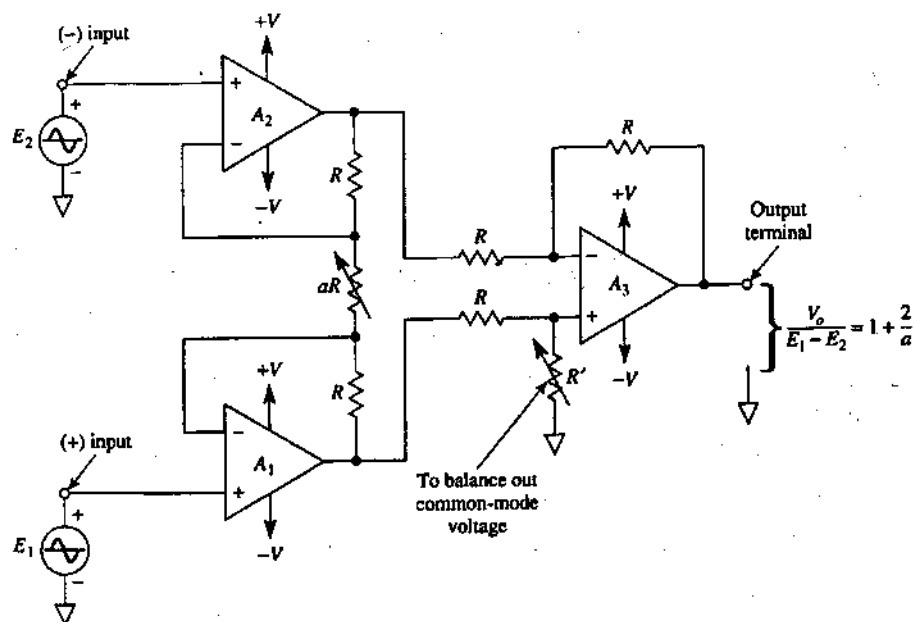

FIGURE 8-6 Basic instrumentation amplifier model.
The instrumentation amplifier (IA) is one of the most useful, precise, and versatile amplifiers available today. You will find at least one in every data acquisition unit. The basic IA is made from three op amps and seven resistors, as shown in Fig. 8-6. To simplify circuit analysis, note that the instrumentation amplifier is actually made by connecting a buffered amplifier [Fig. 8-5(b)] to a basic differential amplifier (Fig. 8-1). Op amp  $A_3$  and its four equal resistors,  $R$ , form a differential amplifier with a gain of 1. Only the  $A_3$  resistors have to be matched. The primed resistor,  $R'$  can be made variable to balance out any common-mode voltage, as shown in Fig. 8-2. Only *one resistor*,  $aR$ , is used to set the gain according to Eq. (8-6), repeated here for convenience:
In Fig. 8-6,  $R = 25 \text{ k}\Omega$  and  $aR = 50 \text{ }\Omega$ . Calculate the voltage gain.
If  $aR$  is removed in Fig. 8-6 so that  $aR = \infty$ , what is the voltage gain?
In Fig. 8-6, the following voltages are applied to the inputs. Each voltage polarity is given with respect to ground. Assuming the gain of 1001 from Example 8-3, find  $V_o$  for (a)  $E_1 = 5.001$  V and  $E_2 = 5.002$  V; (b)  $E_1 = 5.001$  V and  $E_2 = 5.000$  V; (c)  $E_1 = -1.001$  V,  $E_2 = -1.002$  V.
In some signal conditioning applications, it is desirable to offset the output voltage to a reference level other than 0 V. (For example, it would be convenient to position a pen on a chart recorder or an oscilloscope trace at a level other than zero.) This can be done quite easily by adding a reference voltage in series with one resistor of the basic differential amplifier. Assume that  $E_1$  and  $E_2$  are set equal to 0 V in Fig. 8-6(a). The outputs of  $A_1$  and  $A_2$  will equal 0 V. Thus, we can show the inputs of the differential amplifier,  $A_3$ , as 0 V in Fig. 8-7(a).
(a) Op amp 3 of the IA in Fig. 8-6 has its "normally grounded" terminal brought out; the new terminal is called "reference terminal" R
The versatility and performance of the instrumentation amplifier in Fig. 8-6 can be improved by breaking the negative feedback loop around op amp  $A_3$  and bringing out three terminals. As shown in Fig. 8-8, these terminals are *output terminal O*, *sense terminal S*, and *reference terminal R*. If long wires or a current-boost transistor are required between the instrumentation amplifier and load, there will be voltage drops across the connecting wires. To eliminate these voltage drops, the sense terminal and reference terminal are wired *directly to the load*. Now, wire resistance is added equally to resistors in series with the sense and reference terminals to minimize any mismatch. Even more important, by sensing voltage at the load terminals and *not* at the amplifier's output terminal, feedback acts to hold load voltage constant. If only the basic differential amplifier is used, the out put voltage is found from Eq. (8-1) with  $m = 1$ . If the instrumentation amplifier is used, the output voltage is determined from Eq. (8-6).